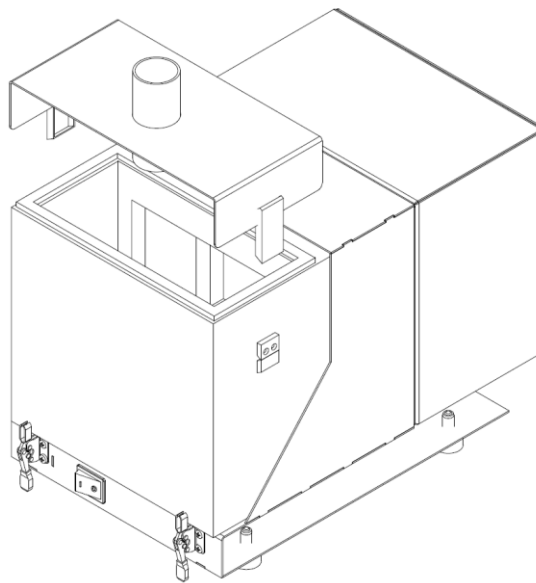

Fig. 134 Prefilter
5. Remove the top filter cover and put it aside (Fig. 134).